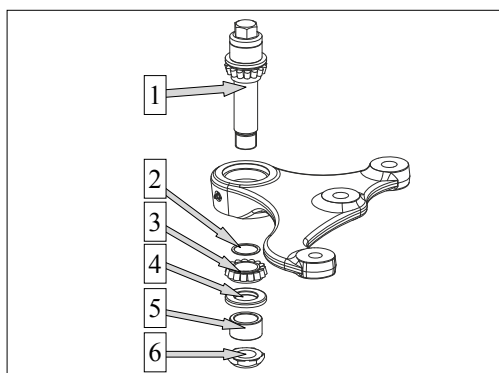

Figure 120
-  **It is imperative to use the shims applied during the successful check (fig. 120).**